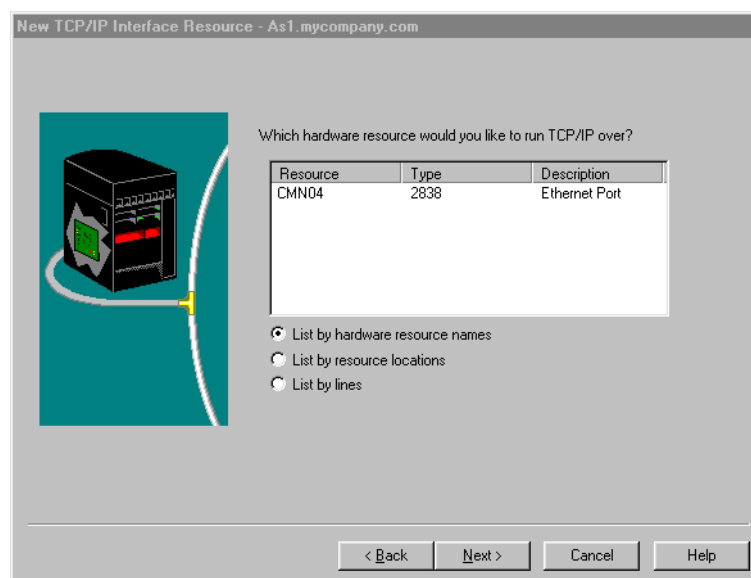

Figure 311. Select Hardware Resource
3. Select the type of connection you will define for TCP/IP (Ethernet, Token-Ring). In our example, we selected Ethernet. If you select Token-Ring, you may see different parameters to define. Click **Next**. The New TCP/IP Interface Resource window appears (Figure 311).